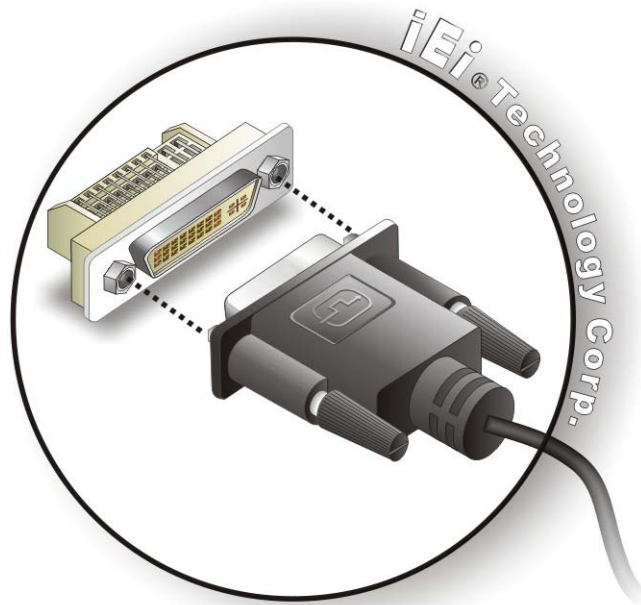

Figure 3-15: DVI Connector
- Step 3:** **Insert the DVI connector.** Once the connectors are properly aligned with the male connector, insert the male connector from the digital display device into the female connector on the TANK-820. See **Figure 3-15**.